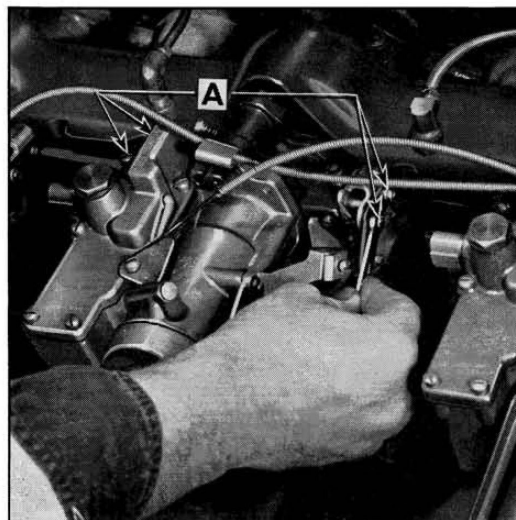

Fig. 14
6. Install four coupling screws "A" loosely, then while holding the throttle valve closed tighten coupling screws securely (fig. 14).